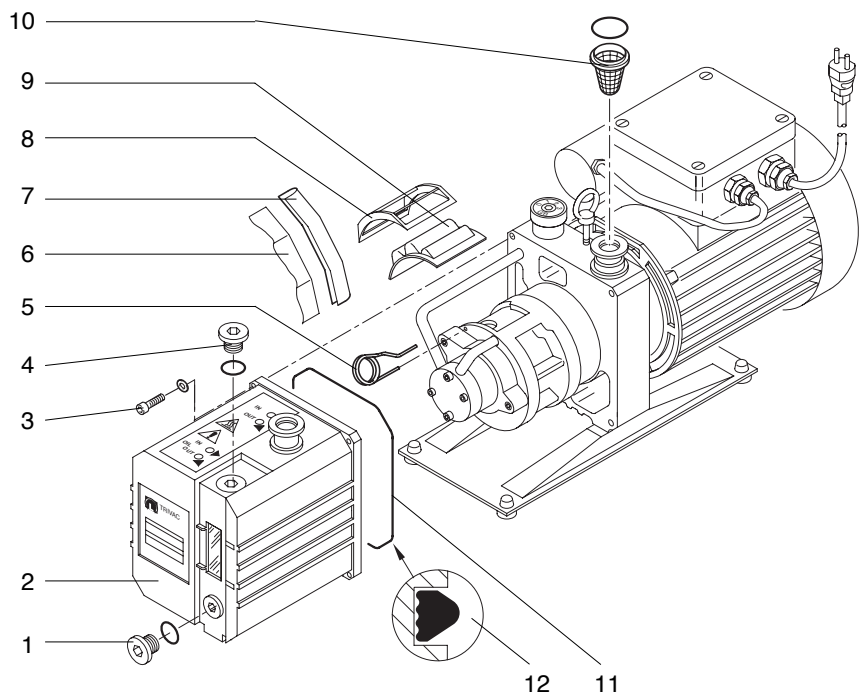

Fig. 8 Removing and inserting the internal demister
Key to Fig. 8
Caution Make sure to fit the gasket for the oil box (8/11) with the flat side in the groove, see item 12 in Fig. 8.